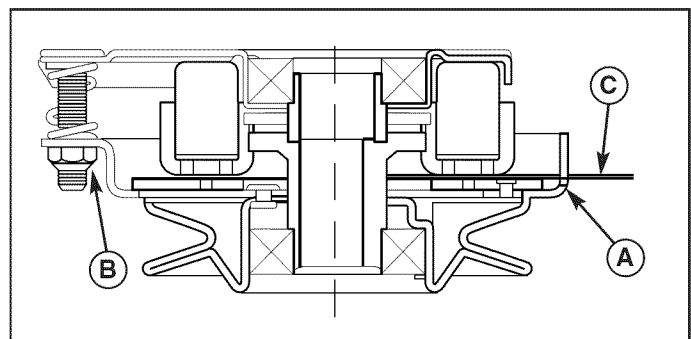

Figure 22. Adjust PTO Clutch
3. Insert a .012"-.015" (2,5-4 mm) feeler gauge (C, Figure 22) through each window, positioning the gauge between the rotor face and the armature face.
4. Alternately tighten the adjustment nuts (B) until the rotor face and armature face just contacts the gauge.